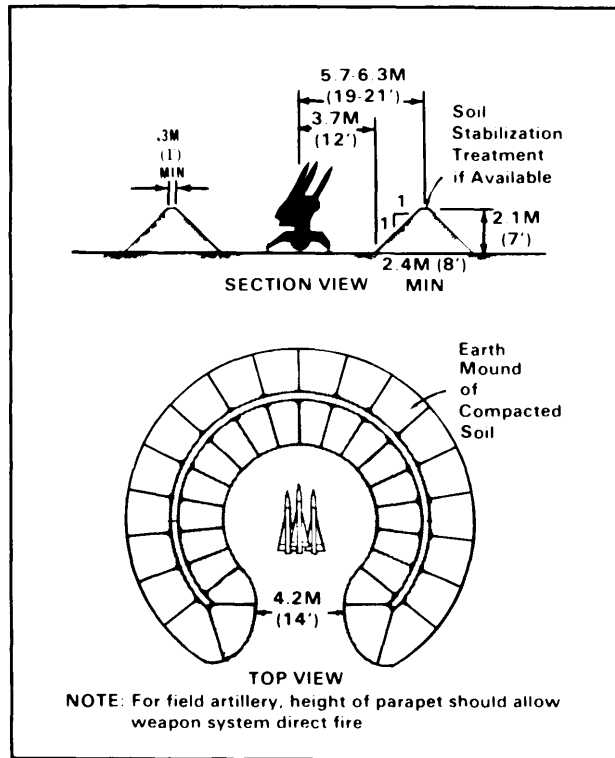

Figure 4-12. Parapet position construction detail
See Table 4-5 and Figure 4-12 for details. For field artillery platform, refer to Field Manual (FM) 5-103 for details